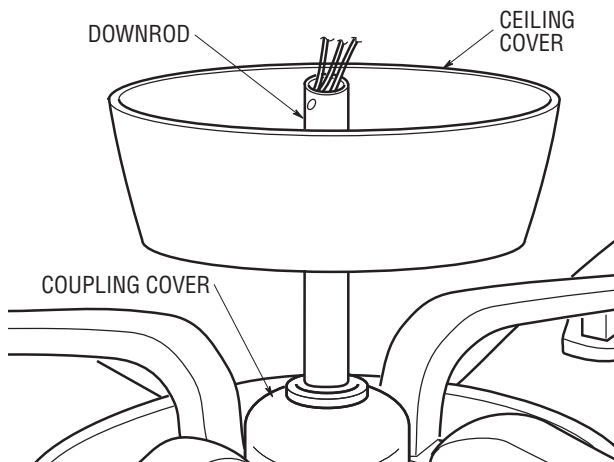

Figure 9
- 13. Slide the coupler cover over the downrod and position it to cover the motor coupling (Figure 9).
- 14. Position the ceiling cover over the downrod. Be sure the cover is oriented correctly, with the large opening at the top (Figure 9).